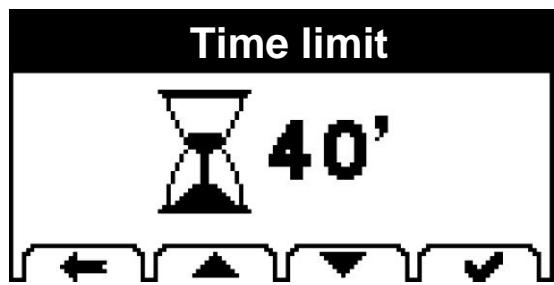

Fig. 5.6
- Select the maximum drying time. Increase or decrease the time limit for the drying period with the and keys (Fig. 5.6).